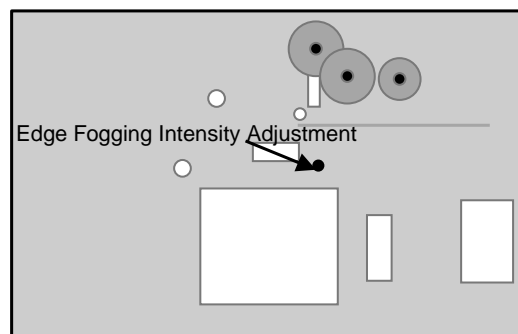

Figure I-14. Edge Fogging LED intensity adjustment (operator side of chassis)
3. If the fogging band width is too wide or too narrow, locate the Edge Fogging LED intensity adjustment (see Fig. I-14).